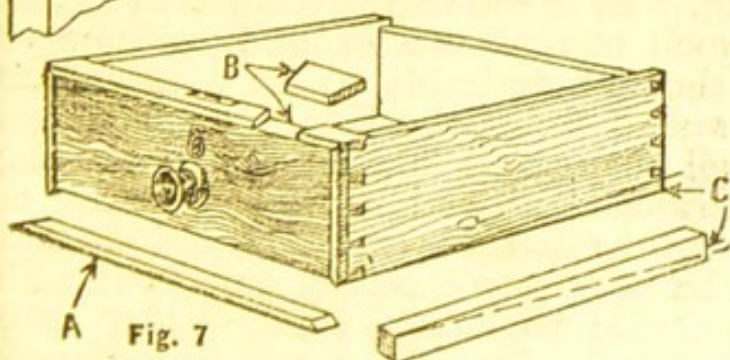

Fig. 7
Fig. 7 (A) shows a new length of beading made out of a piece of old mahogany. It is ready to be glued to the bottom, and its mitred ends have been cut and tried in position. The lower edge of the drawer should be carefully scraped to remove all trace of the old glue. The necessary pressure to hold the bead in position whilst the glue hardens would be obtained by using two handscrews or G cramps. The edge of the bead should be
bodied up with french polish before fixing in position. At the top edge of the drawer (Fig. 7 B) is shown the method of letting in a small piece of new wood to replace a bruised or damaged portion, where it is not thought desirable to fix a new bead on account of disturbing and re-fixing the lock, etc. The new piece is made to a dovetail shape and laid on to the existing bead; then a mark is scratched around it with a needle or sharp penknife point to give the exact size and angles of the new piece, and the recess may be sawn and carefully pared out with a chisel. The new piece should be made rather thicker than required, so that, after fixing, a shaving or two may be removed, thus leaving all flush. The top edge will then have to be glass-papered, stained and polished.
Owing to constant friction, the lower edge of the drawer sides becomes worn away as indicated in Fig. 7 (C) and causes the drawer to run badly. Drawers that are thus worn should be turned bottom upwards on the bench and the worn portions planed away as indicated by the line at Fig. 7. The planing will not interfere with the drawer bottom, which stands clear of the lower edge of the side by anything from $\frac{3}{8}$ in. to $\frac{5}{8}$ in. A new piece, preferably of hardwood, is glued on to the existing drawer side and cramped in position. After, say, 24 hours, the surplus material may be planed off the newly-jointed piece, making it parallel to the top edge of the drawer.